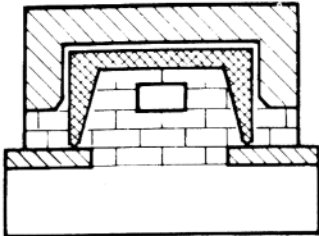

FIG. 1 Hearth plan at floor level
Step 1 Finish the foundation with a layer of firebrick upon which to set the Circulator Unit. The firebrick should extend beyond the Circulator at the sides and back and be at least flush with the front of the Circulator. If the fireplace is to have an ashpit, the ash dump should be put in at the time the firebrick base is laid. Do not lay firebrick up into the metal firebox of the Circulator. (See Figure 1.)